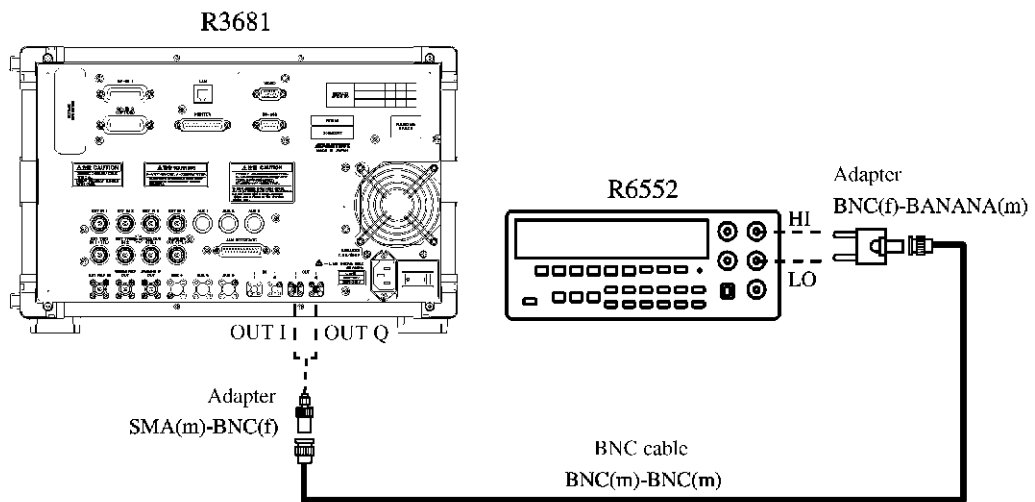

Figure 8-3 Residual DC Offset Measurement Connection Diagram
2. Connect the instruments as shown in Figure 8-3.